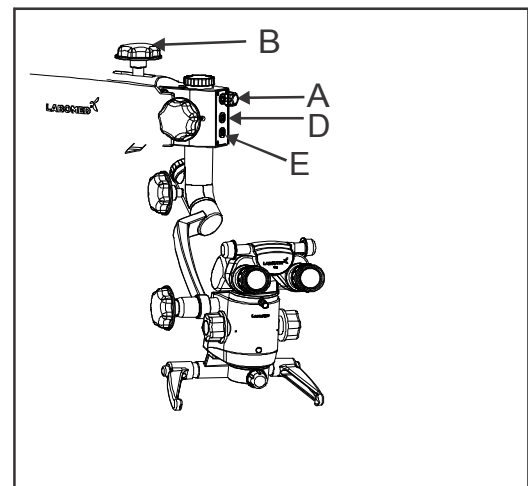

Fig. 8
It is located in front of the suspension arm shown as (A) in Fig. 8. Brightness of field of view can be adjusted as per user comfort using intensity control knob.
This knob helps you to lock the movement of swivel arm at the desired position after initial focusing of the attendance area by turning it clockwise, knob is shown as (B) in Fig. 8 .
9.4 Camera & Potentiometer output in center, shown as D in fig. 8
9.5 Camera output shown as E in fig. 8